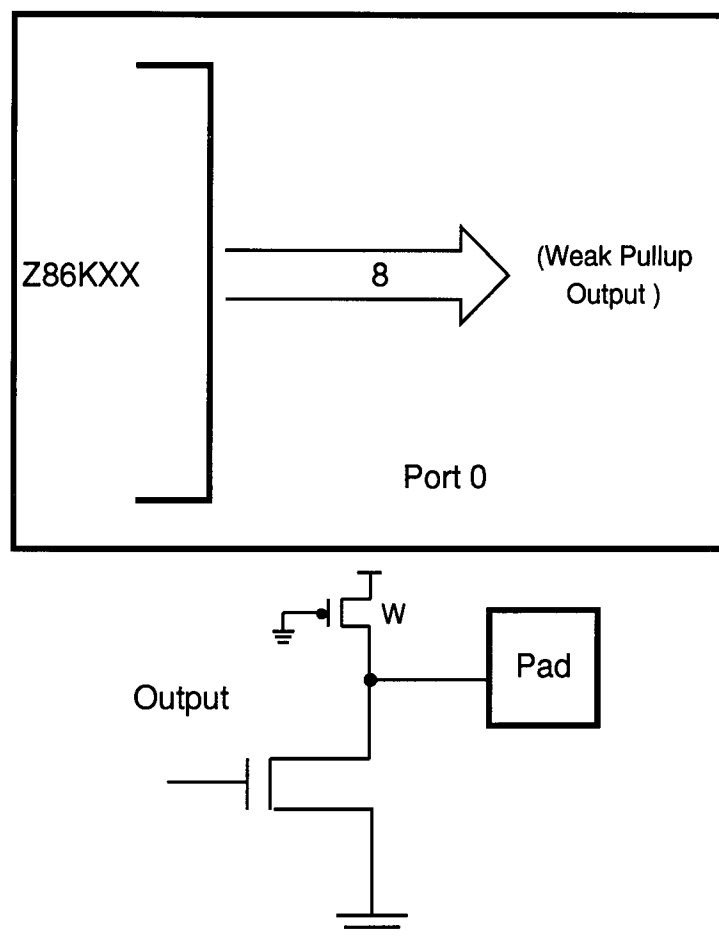

Figure 7. Port 0 Configuration
**Port 0 (P07-P00).** Port 0 is an 8-bit, CMOS-compatible open-drain output (Figure 7).